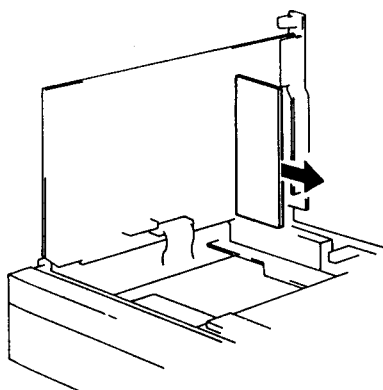

Fig. 4-7 Audio NR Circuit Board
5. Audio NR Circuit Board (Fig. 4-7)